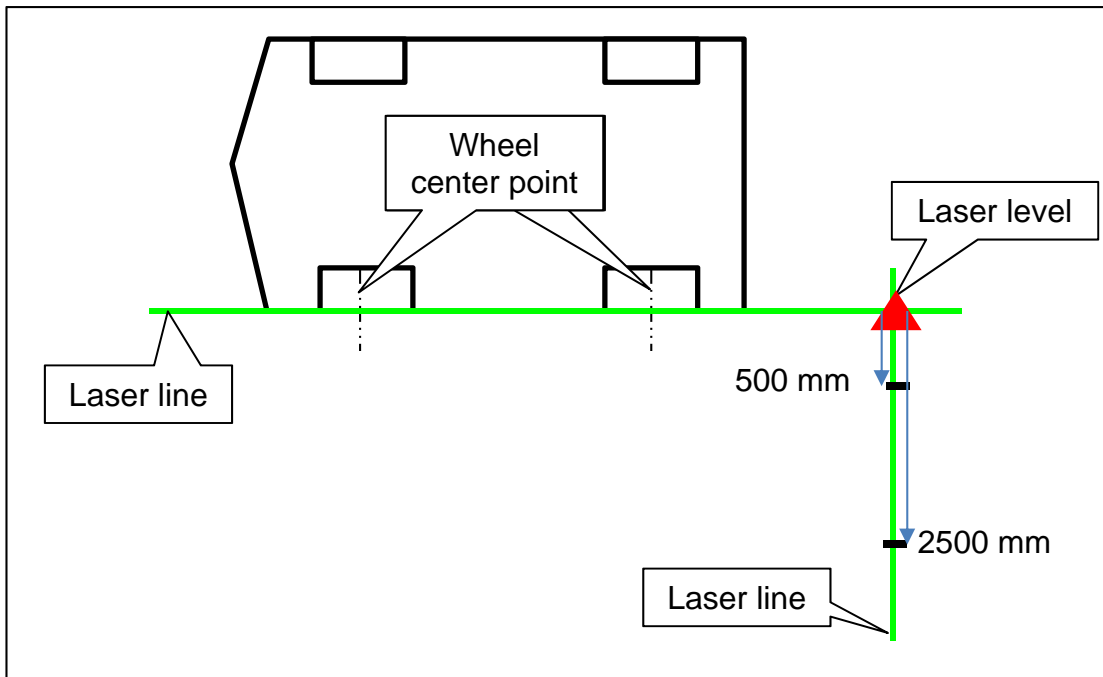
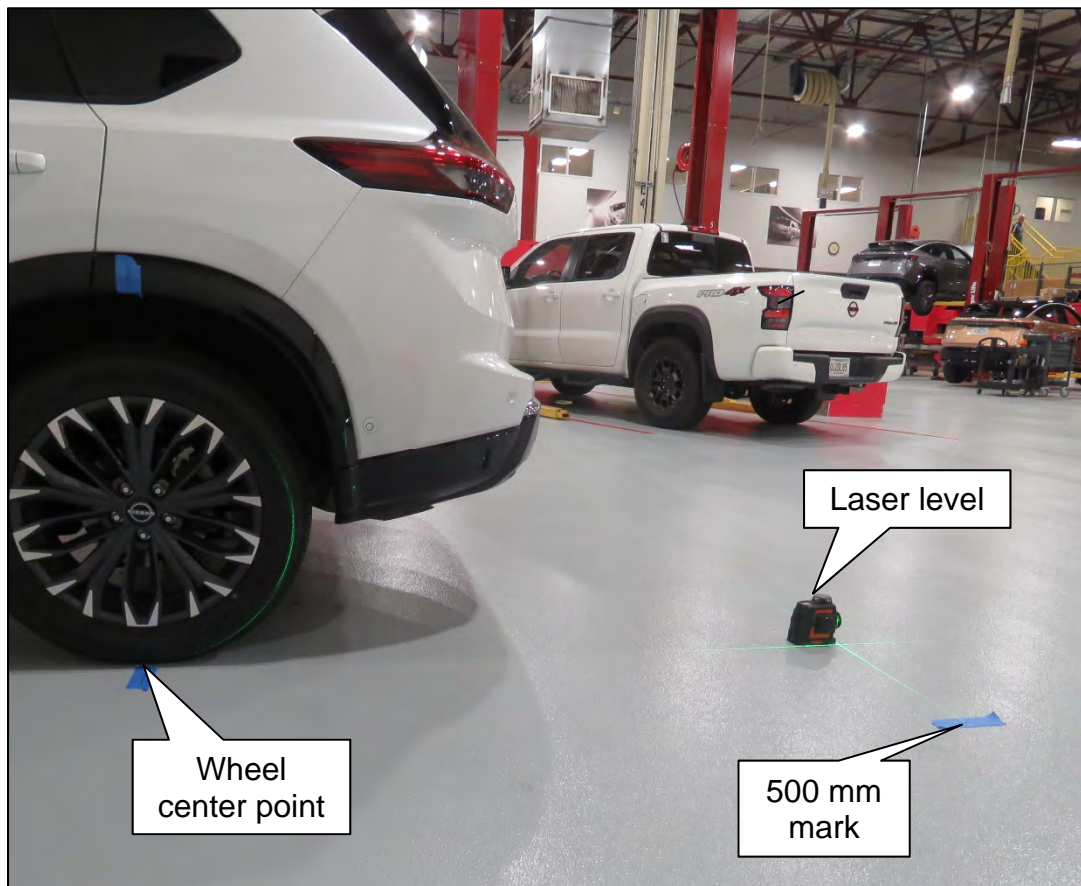

Figure 24
Figure 25
22. Activate a second vertical laser line (90° to the original laser line), and then mark a line at 500 mm and 2500 mm from the original laser line, as shown in Figure 24 and Figure 25.